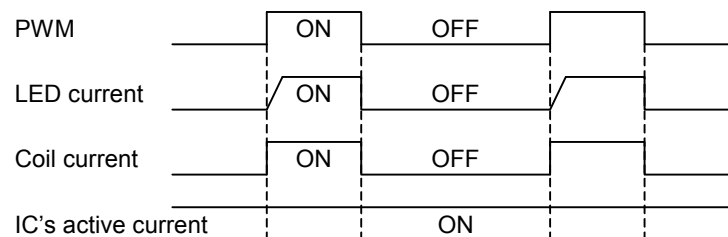

Figure 7. Current driver PWM control
1)Current driver PWM control is controlled by providing PWM signal to PWM terminal, as it is shown Figure 7.